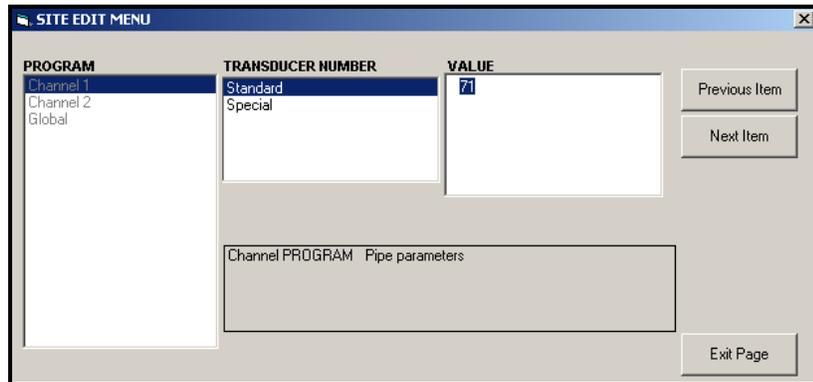

Figure C-11: The Pipe Parameters Option in the Site Edit Menu
- a. Highlight and double-click on the desired option in the center pane. Figure C-11 on the next page shows the first entry (Transducer Number) in the *Pipe Parameters* option. The title above the center pane lists the current entry, while the center pane displays the available selections for that entry.